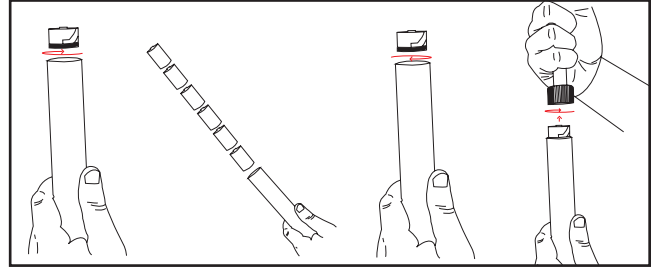

Figure 38 - Insert Batteries into the Pendant
On battery powered units, untwist the Pendant and insert (6) or (8) D Alkaline batteries, negative end first. See Figure 38.